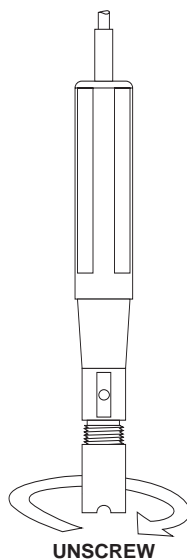

fig. 2
- Unscrew the membrane by turning it counterclockwise (fig.2)